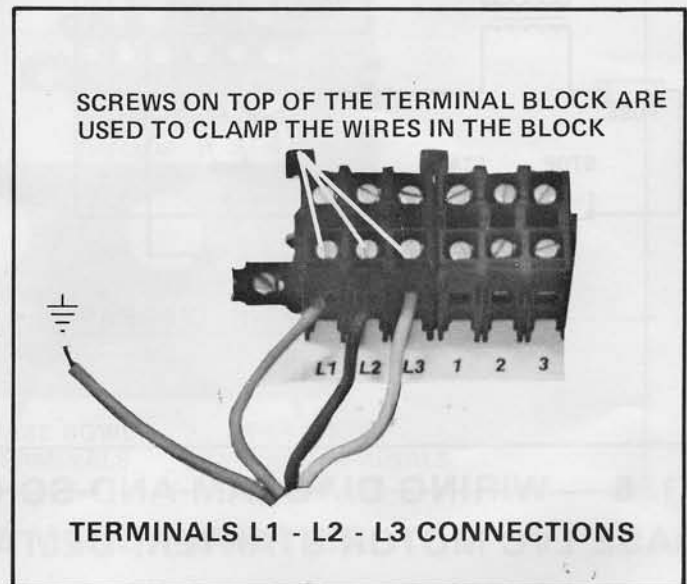

Fig. 8
3. The wires must be connected to terminals L1-L2-L3 through the front face of the terminal block as shown in Fig. 8. The screws on the top of the terminal block are used for clamping the wires in the terminal block.